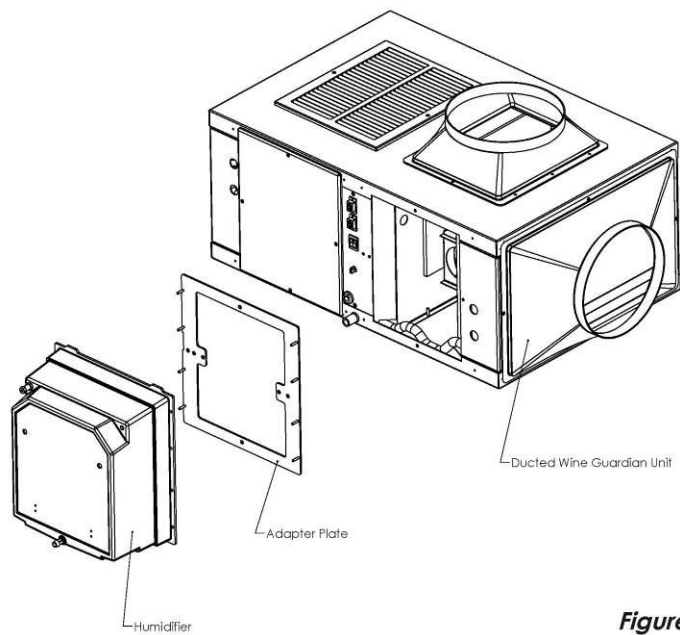

Figure 5.0
- 2) Attach the access panel and rotate (2) captive latches to secure the access panel to the humidifier housing.
- 4) Select the proper adapter plate for the cooling unit. Models D200 and SS200 for 60Hz and WG175 for 50Hz units require a larger adapter plate and install on the side opening using the screws from the panel removed above. The adapter plate allows the humidifier to be mounted in either a forward position or back toward the center by simply rotating the adapter plate 180 degrees. (See Figure 5.0)